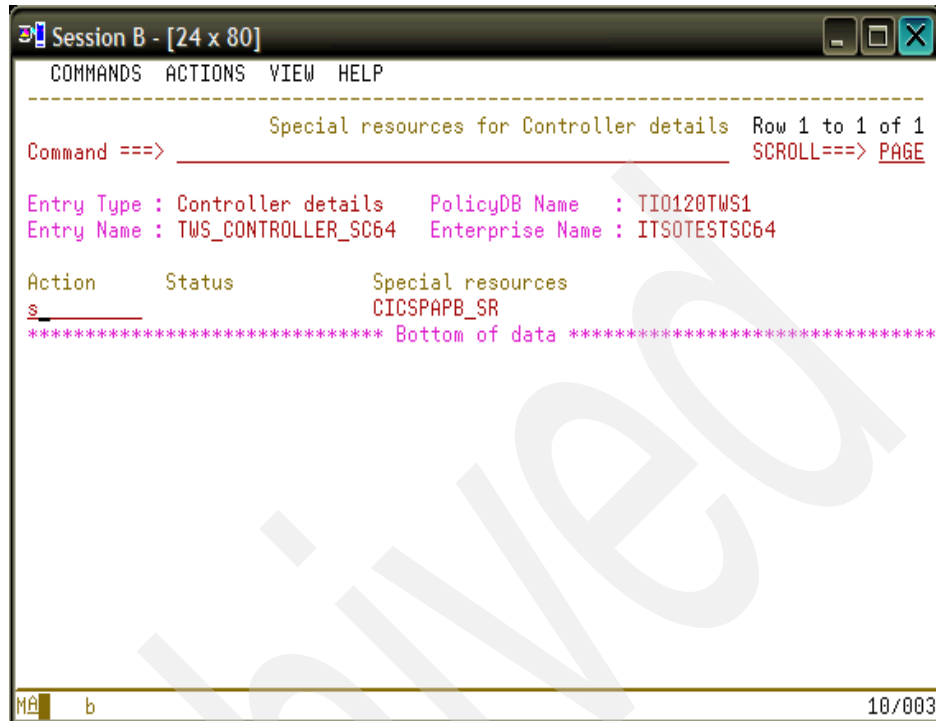

Figure 4-58 Special resources for Controller details panel
8. Because we specified YES for OPC Special resources in this entry, we must now define which special resource lists are used by this entry. Place an s in the Action field for SPECIAL RESOURCES and press Enter. The Special resources for Controller details panel that is shown in Figure 4-58 on page 165 displays.